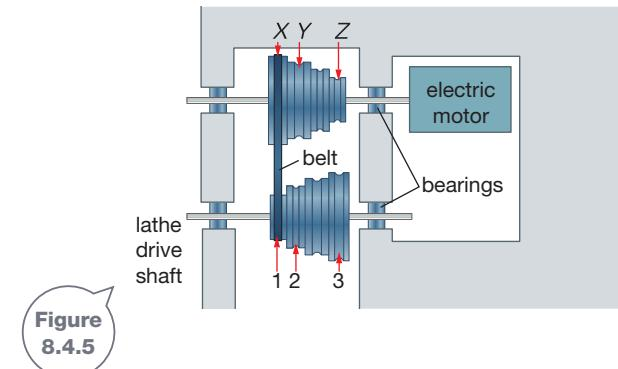

Figure 8.4.5
- 12 Figure 8.4.5 shows the pulley system of a lathe. The electric motor is driven at a constant rate. The rate of the drive shaft is then determined by changing the selection of the belt onto different pulley wheels. Analyse Figure 8.4.5 to answer the following questions.